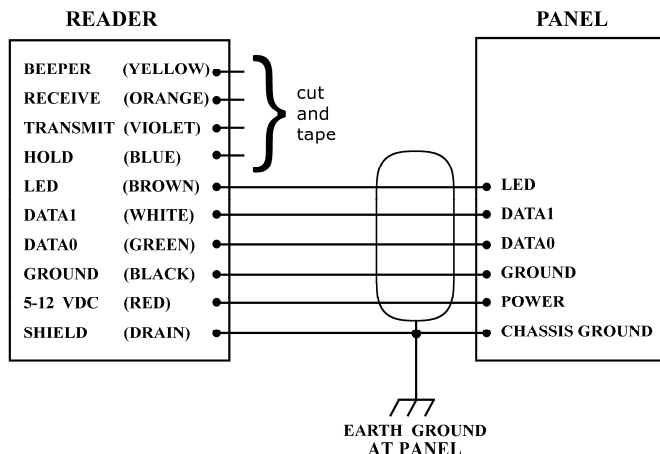

FIGURE 2: WIRING DIAGRAM – WIEGAND
4. Connect the reader's cable to the controller panel as shown in Figure 2.
- 5 or 6 conductors (not twisted pairs), stranded, 22 AWG, color-coded insulation, overall 100% shielded (Number of conductors depends upon use of optional features – Beeper and LED. See Figure 2.)